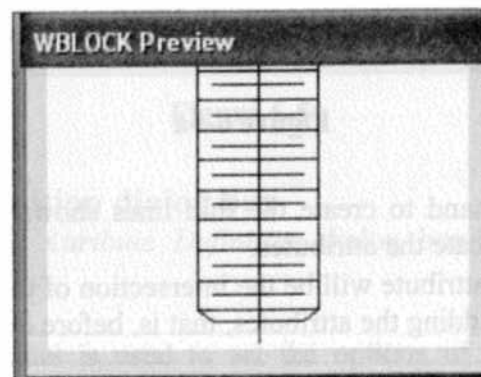

Figure 6-3c
- This will close the *Write Block* dialog box, and the *Wblock Preview* window shown in Figure 6-3c will pop up for a very short time. This is the indication that the *Wblock* is created properly.